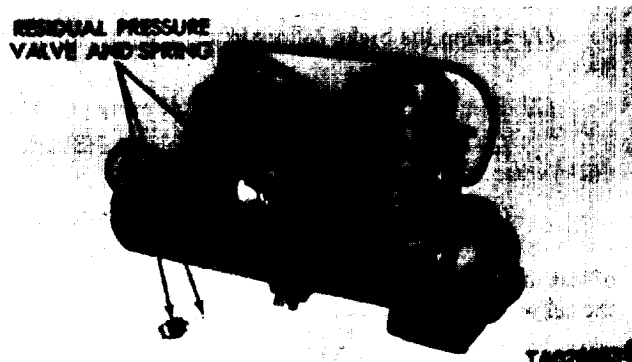

Figure 22-2. Removing Residual Pressure Valve and Spring.
- (1) Clean the outside of the cylinder.
- (2) Remove the residual pressure valve and spring (figure 22-2).